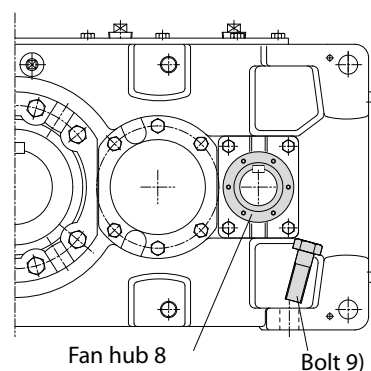

Fig. 7
4. Fit the gearbox onto the mounting surface with the bolts (Fig. 7).